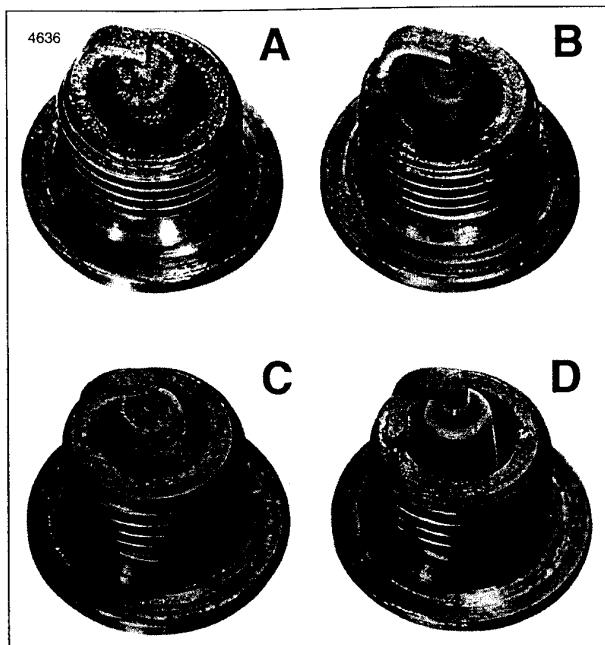

Figure 1-51. Typical Spark Plug Deposits
- 3. See Figure 1-51. Compare your observations of the plug deposits with the descriptions provided below.